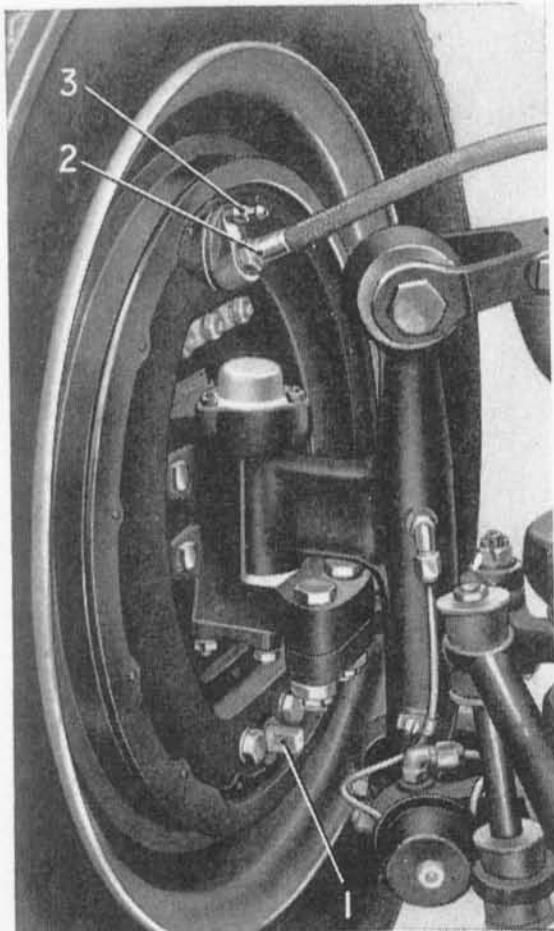
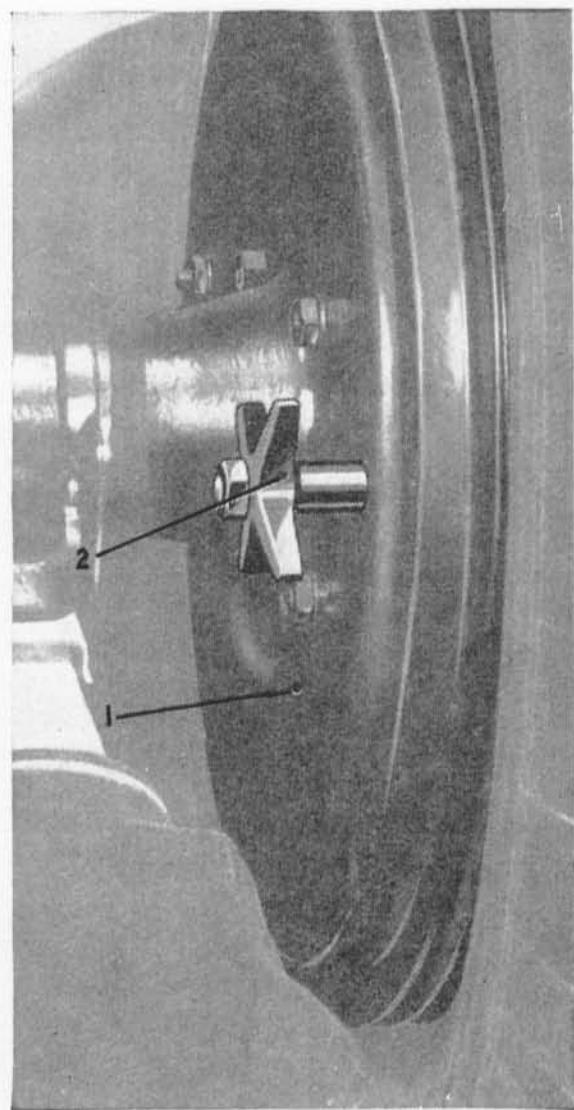

Fig. 18.—FRONT BRAKE ADJUSTMENT.
Fig. 19.—REAR BRAKE ADJUSTMENT.
The method of adjustment is the same for both front and rear brakes, with the exception that a hand wheel is provided on the rear brake adjusters, while a  $\frac{1}{4}$ " B.S.F. open-ended spanner must be used on the squared end of the front brake adjusters. The rear adjusters (2, Fig. 19) are located forward of the axle tubes, and the front adjusters (1, Fig. 18) directly below the steering pivot pins.
1. Attach a clean rubber drain tube to one front brake bleeder screw (3, Fig. 18), and immerse the other end in a clean glass jar in which there is sufficient hydraulic brake fluid to submerge the end of the tube.